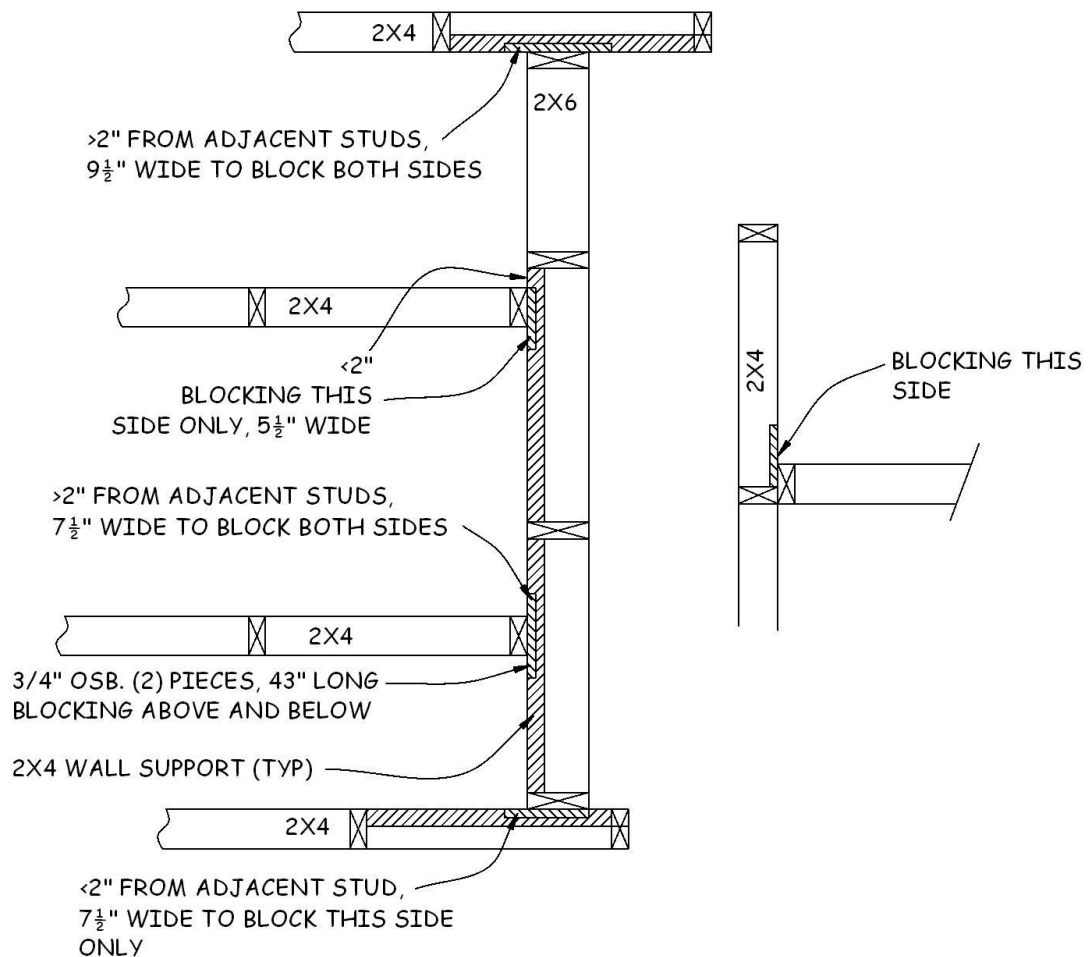

Figure 10-4. Blocking For Wall Rock.
2x6 wall. Pre-drill four pairs of 3/16" holes, spaced evenly vertically, through the stud (about 1/2"-3/4" in from each edge). To attach the blocking, hold the piece of OSB in place, making sure it is tight (no gaps) to the outside of the end stud (use a clamp, if necessary). Attach the OSB blocking by screwing 2" screws through the holes in the 2x4 into the OSB, turning the screw until it is buried about 1/4" into the stud. If there is access to drive screws from the blocking side of stud, it is acceptable to use two layers of 1/2" OSB. See Figure 10-4.
5. Where an interior wall intersects an interior wall (See Figure 10-4), install blocking using 2x4's, 3/4" OSB, or two layers of 1/2" OSB. Secure the blocking to the end stud using 16d nails for 2x4 blocking and 2" screws for OSB blocking.